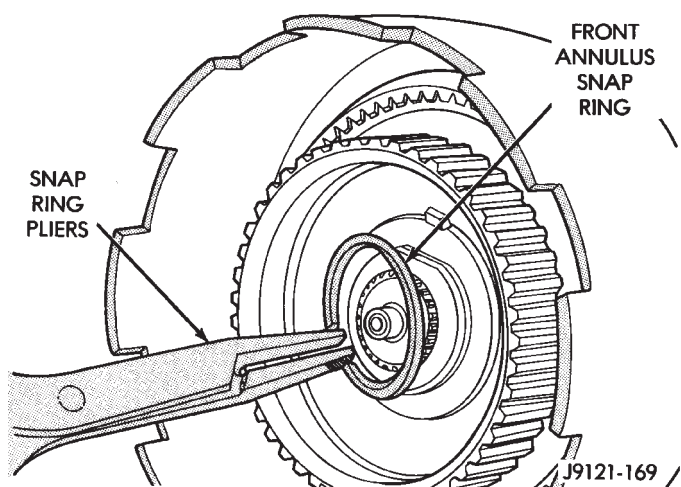

Fig. 93 Installing Front Annulus Snap Ring
(20) Install front annulus snap ring (Fig. 93). Use snap ring pliers to avoid distorting ring during installation. Also be sure ring is fully seated.